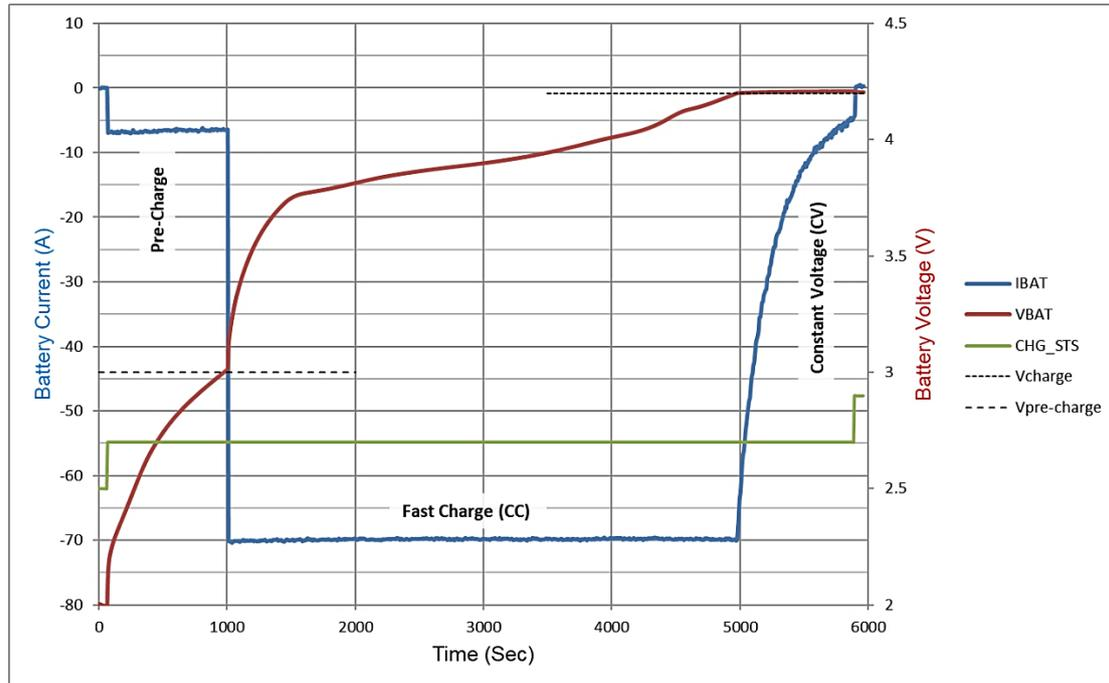

Figure 31: Example 70 mAh Charge Cycle
Charging current operates in three regions based on battery voltage: pre-charge, fast charge (CC), and constant voltage (CV). These regions are shown in the typical charging example of Figure 31. The charge status (CHG_STS) is also shown transitioning from the 'charge ready' to 'charge in-progress' to 'charge done' states.